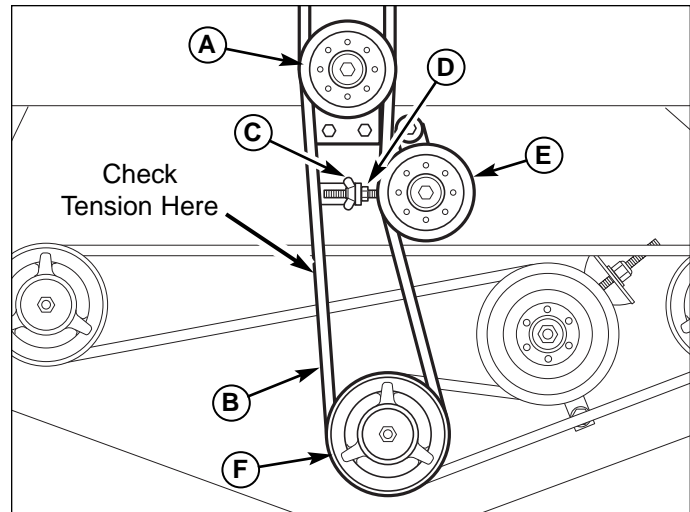

Figure 23. PTO Clutch to Deck Belt
4. Loosen the wing nut (C, Figure 23) to release the belt tension on the deck drive belt (B, Figure 23).
7. Install the drive belt on the PTO pulley, the idler pulley and center spindle pulley. Tighten the wing nut (C, Figure 23) until a 10 lb. (44.5 newton) force is required to deflect the belt 1/2" (1,27cm) between the idler pulley and center spindle pulley. Jam hex nut (D, Figure 23) against anchor. See Figure 23.